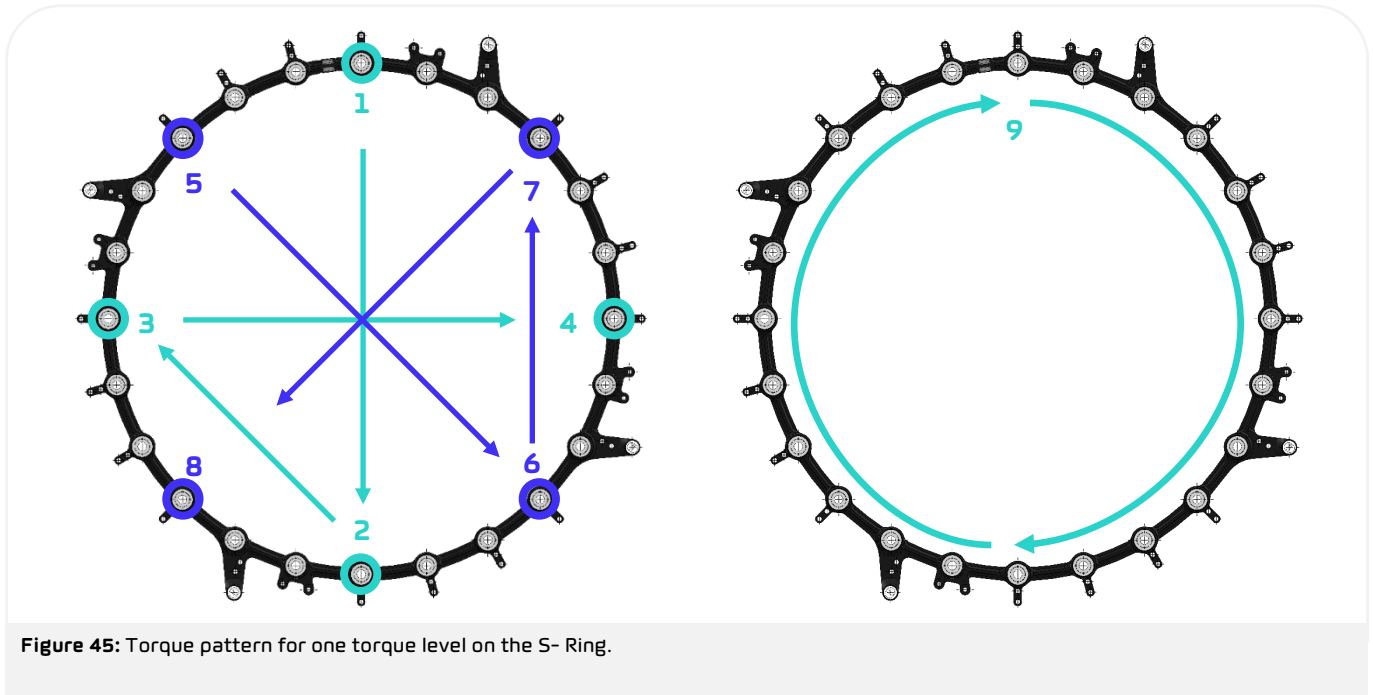

Figure 45: Torque pattern for one torque level on the S-Ring.
3. Tighten all screws in a double cross pattern and then circular, as can be seen in Figure 45.